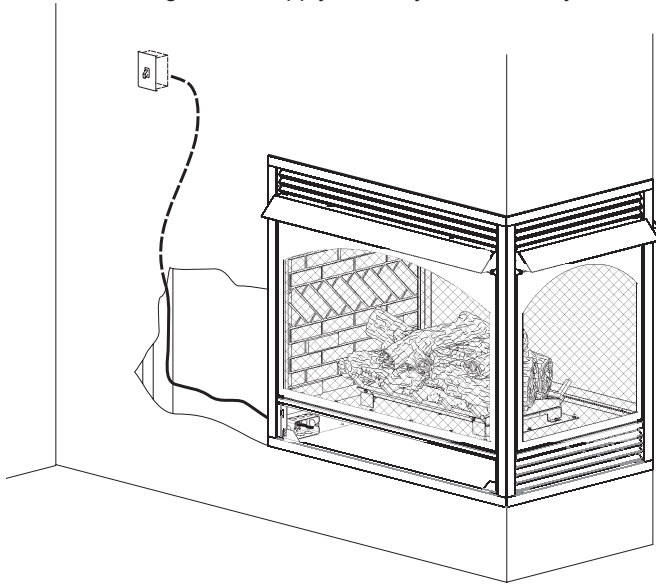

Figure 17
6. To complete the installation, plug the power cord into the junction box receptacle previously installed in the bottom of the fireplace. **See Figures 17 and 18.**